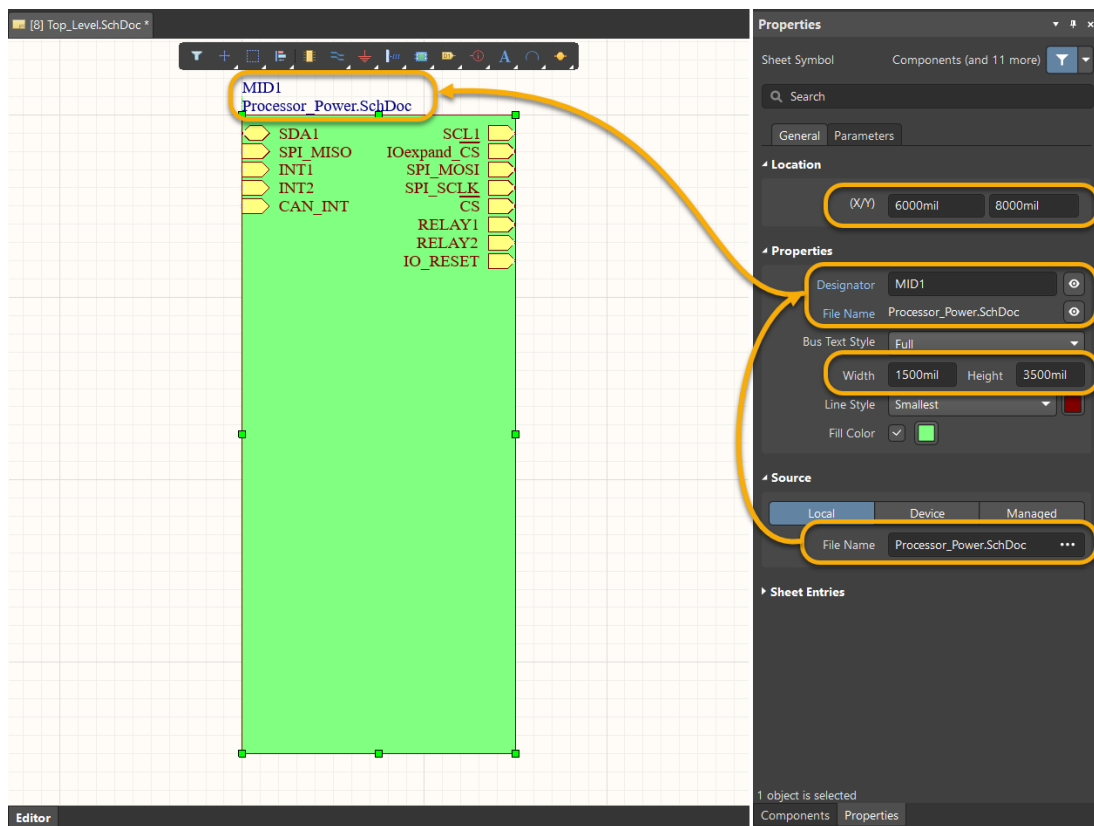

Figure 2. Resize Sheet symbol
- a) In the *Properties* panel, change the *Width* value to 1500mil and the *Height* value to 3500mil as shown in Figure 2 and hit **Enter**.